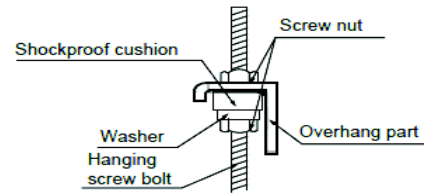

Fig. 9 – Secure the Unit
5. Secure the unit in position with lock nuts and washers on both sides of the mounting bracket. Ensure the threaded rod does not extend more than 2 in. below the mounting brackets (see Fig. 9).